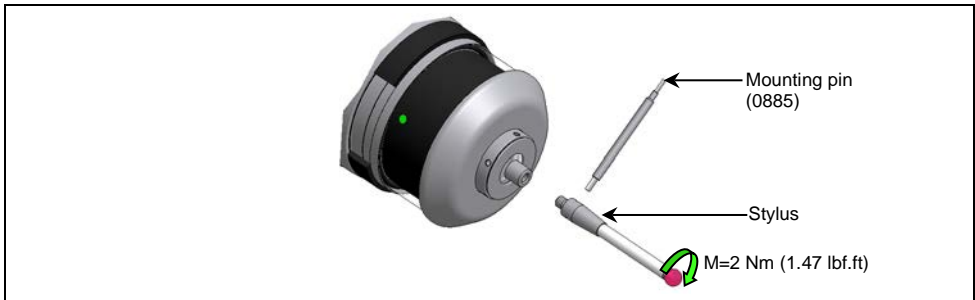

Fig. 12 Stylus change with measuring unit PP41.00
2. Carefully screw the new stylus with mounting pin into the touch probe (Fig. 12).